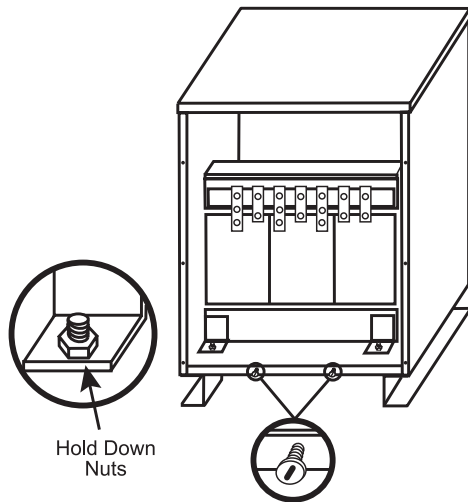

Figure 1 Front view of ventilated unit
- **Ventilated models:** loosen core and coil hold down nuts (**Figure 1**) to reduce possible sound transmission to the case.
NOTE: On ventilated transformers the bottom screws should be loosened and not removed for easier replacement of the cover. See **Figure 1**.